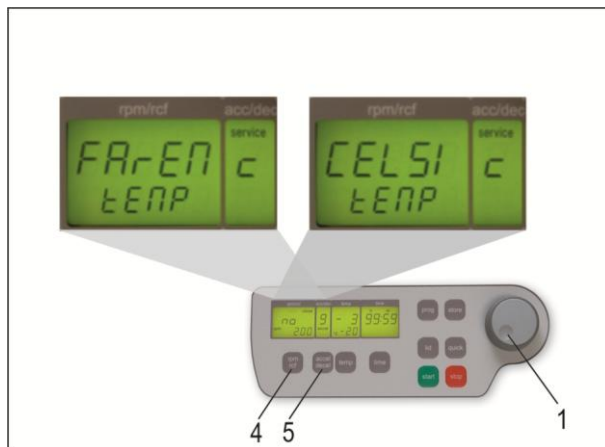

Figure 4
Proceed as illustrated, under point 1.8.1, to enter this program mode, press the key "accel/decel" (5). In the display, "accel/decel" (A-2) appears the word, "service". Select the letter, "C", with the adjustable knob (1). As a result, appearing in the display, "rpm/rcf" (A-1) are the words, "CELSI/temp". By pressing the key, "rpm/rcf" (4), the word "CELSI" flashes, this allows you to change the display into Fahrenheit "FAREN", with the adjustable knob (1), (see Figure 4).